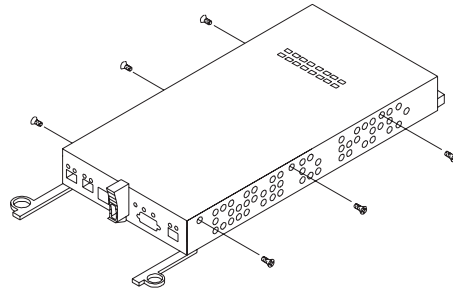

Figure 72. Controller battery-access panel screws
6. To access the cache battery, place the RAID controller CRU bottom up on a flat surface. Using a #2 Phillips head screwdriver, remove the six screws (three on each side of the RAID controller) that hold the RAID controller bottom panel to the sides of the RAID controller, as shown in Figure 72 on page 92.
the RAID controller) that hold the RAID controller bottom panel to the sides of the RAID controller, as shown in Figure 72 on page 92.
9. Place the RAID controller CRU bottom up on a flat surface. Using a #2 Phillips head screwdriver, remove the six screws (three on each side of the RAID controller) that hold the RAID controller bottom panel to the sides of the RAID controller, as shown in Figure 72 on page 92.